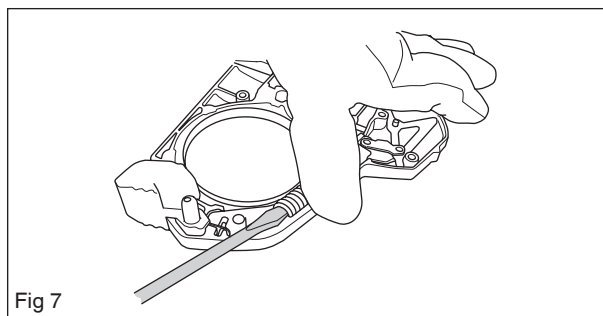

Fig 7
2. Compress the spring with a wide screwdriver and press it down with your thumb. See figure 7.